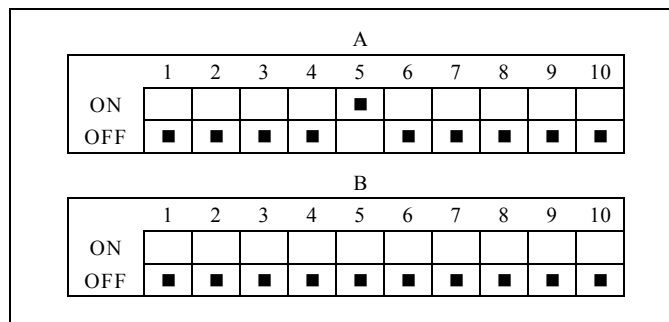

Figure 2-22. TX-1500 Rear Panel Switch Settings
1. Set the rear panel DIP switches as shown in Figure 2-22.